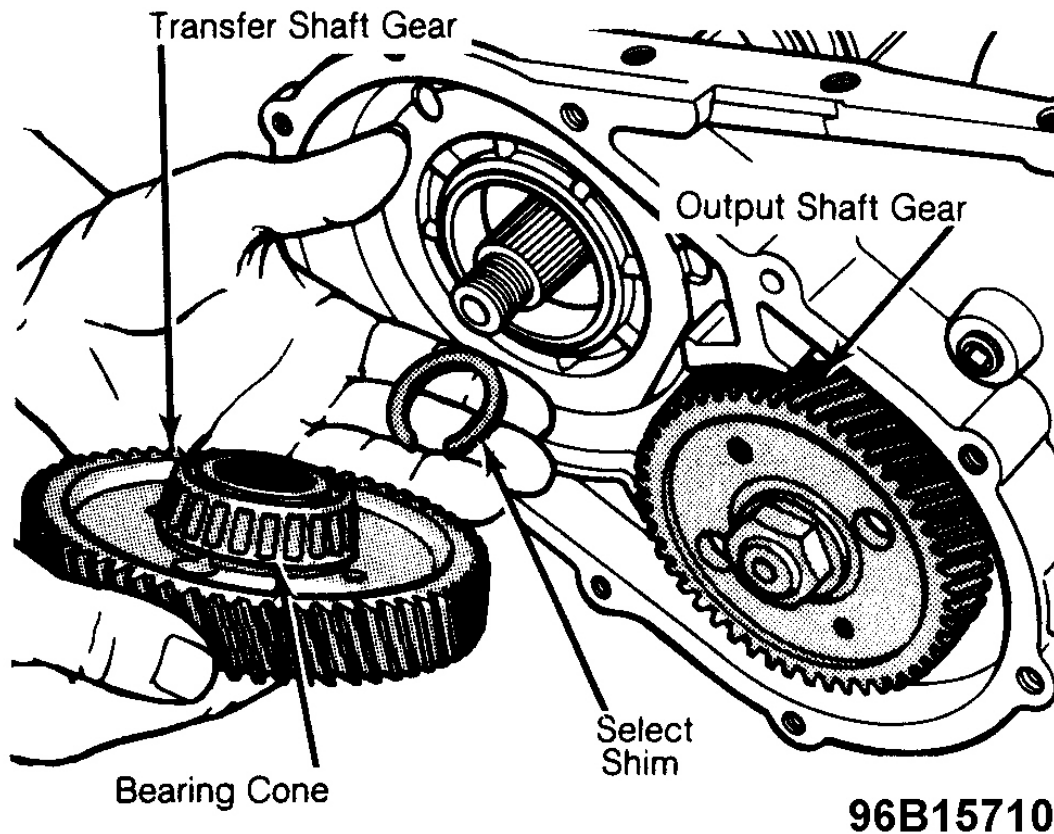

Fig. 28: Transfer Shaft With Gear Removed to Show Adjusting Shim
6. If none of these components are replaced, skip steps 7 -12 and reassemble transfer shaft assembly using original adjusting shims. See **Fig. 28** for location of shim.